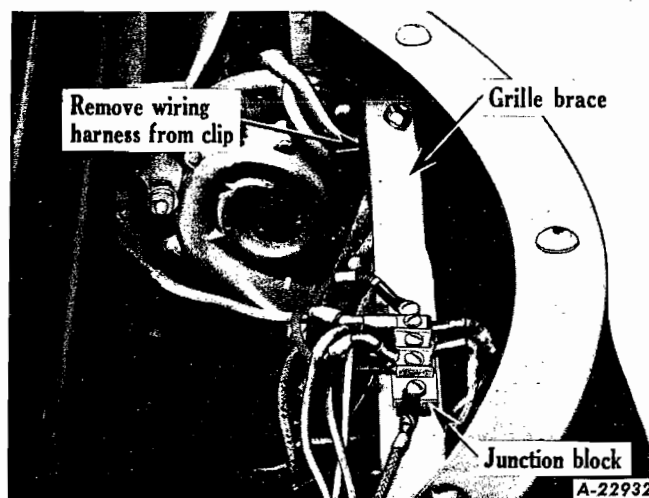

Fig. 60
2. Remove head lamp wiring harness terminals from junction block on grille brace (Fig. 60). Mark wires for reassembly.
3. Remove head lamp wiring harness from clip located on left side of grille brace (Fig. 60).